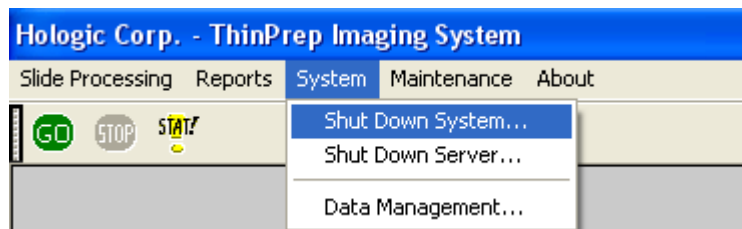

Figure 3-35 Shut Down System Menu Selection
1. To power off the server, at the user interface, use the mouse to pull down the menu under System and click once on **Shut Down Server**. (Refer to Figure 3-35.)
1. To power off the Image Processor, at the user interface, use the mouse to pull down the menu under System and click once on **Shut Down System**. (Refer to Figure 3-35.)